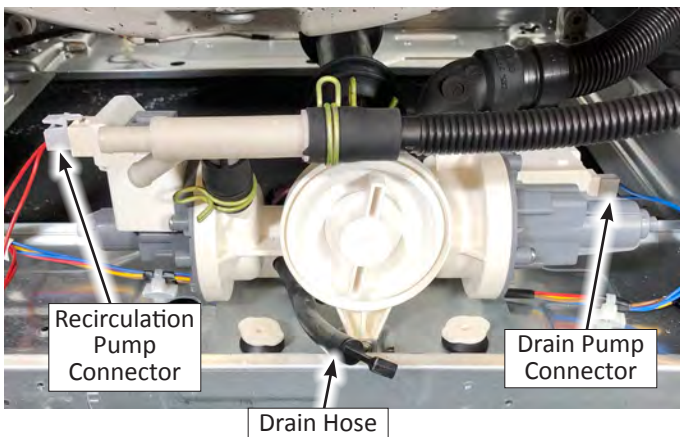

Figure 1
8. Disconnect the blue Drain Pump connector and the red Recirculation Pump connector. See Figure 1.